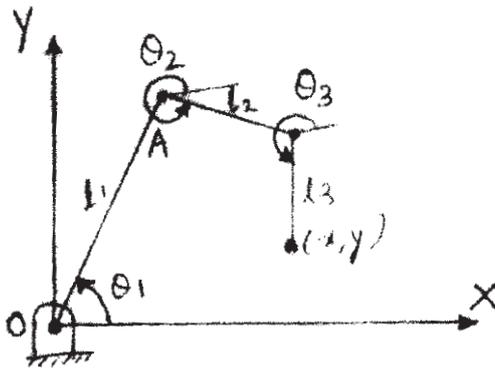

Fig 6 (b)
- b) A planar 3R manipulator as shown in fig 6 (b), has link lengths  $l_1 = 100\text{mm}$ ,  $l_2 = 80\text{mm}$  and  $l_3 = 60\text{mm}$ . Determine it's reachable workspace and state whether point (200, 100) is reached with  $\theta_1 = 40^\circ$ . If yes, what are the values of  $\theta_2$  and  $\theta_3$ ? If no, what should be the minimum value of  $\theta_1$  so that the point will be reached by the manipulator? [6]